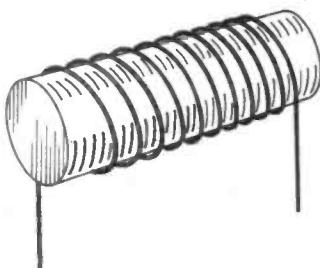

Fig. 1. A solenoid coil.
In practice, however, it doesn't work out quite like that. If you have a coil like the one in Fig. 1, with 16 turns, and you remove 8 of them, you have done something else, too. You have changed the shape. What started off as a coil about twice as long as it was thick, ends up as one whose length is about the same as its thickness (i.e. diameter).
This is why those formulae are so complicated. They take all three factors into consideration. (For any courageous reader with a calculator, the first formula is approximately right for coils of ordinary shape, like Fig 1. Formula (2) is for short coils. Formula (3) is for ordinary coils but is more accurate than (1). All dimensions are in inches and the inductance is in micro-henries. All coils are "single layer", that is, with just one layer of wire, not several on top of each other.)